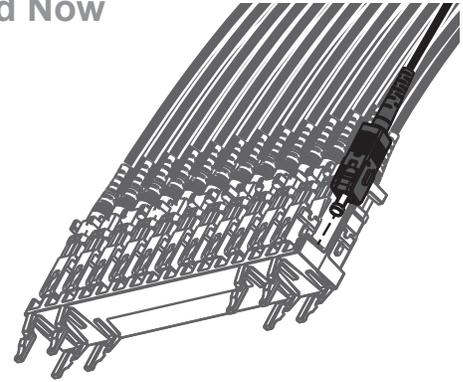

Figure 23
- Step 1:** Select the splitter output fiber to be connected and remove it from the connector storage clip (Figure 23).